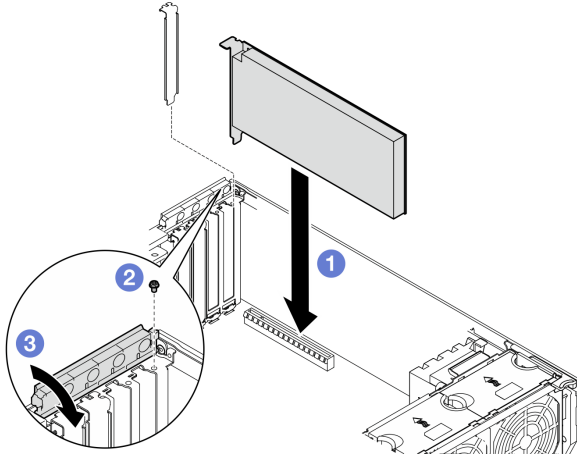

Figure 118. Installation of a HL PCIe adapter
- To replace an existing PCIe adapter, skip to the procedure of installation: Figure 118 “Installation procedure of a HL PCIe adapter” on page 171